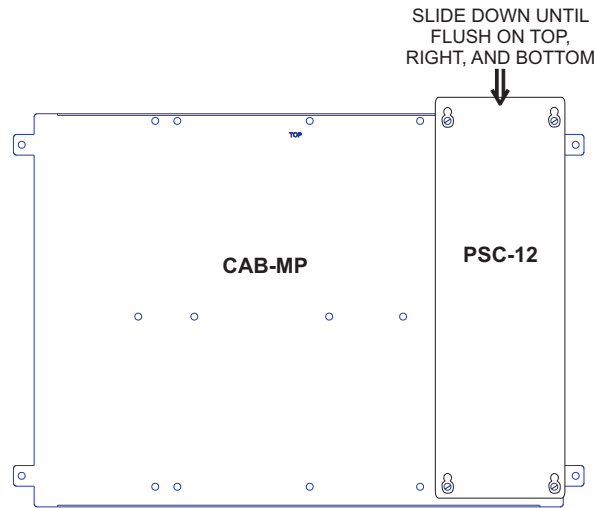

Figure 6
2. Place the PSC-12 over the four screws on the Mounting Plate and slide it down or towards you to rest on the four screws. (Refer to Figure 6.) When the PSC-12 is in the correct position it will be flush with the top, bottom and right side of the Mounting Plate.